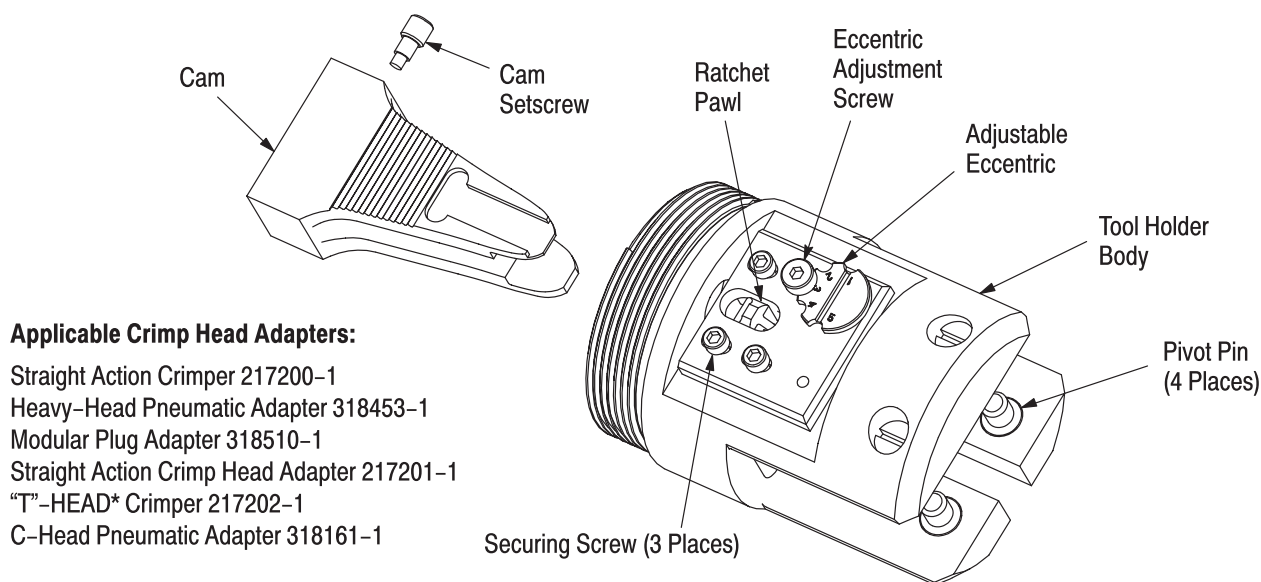

Figure 1
Pneumatic CERTI-CRIMP Tool Holder 356304-1 is used in conjunction with 626 Pneumatic Tooling Assemblies 189721-1 or 189722-1 to crimp various types of connectors. The tool holder is designed to accept interchangeable crimp head adapters (listed in Figure 1) which hold various crimping die assemblies. For questions concerning the setup and operation of the pneumatic tools, refer to Customer Manual 409-5862.
2. DESCRIPTION (Figure 1)
5. If the ratchet releases before the dies bottom, loosen the three securing screws, remove the eccentric adjustment screw (refer to Figure 1) and rotate the eccentric *clockwise* to a higher setting. Tighten the securing screws. Repeat as required.